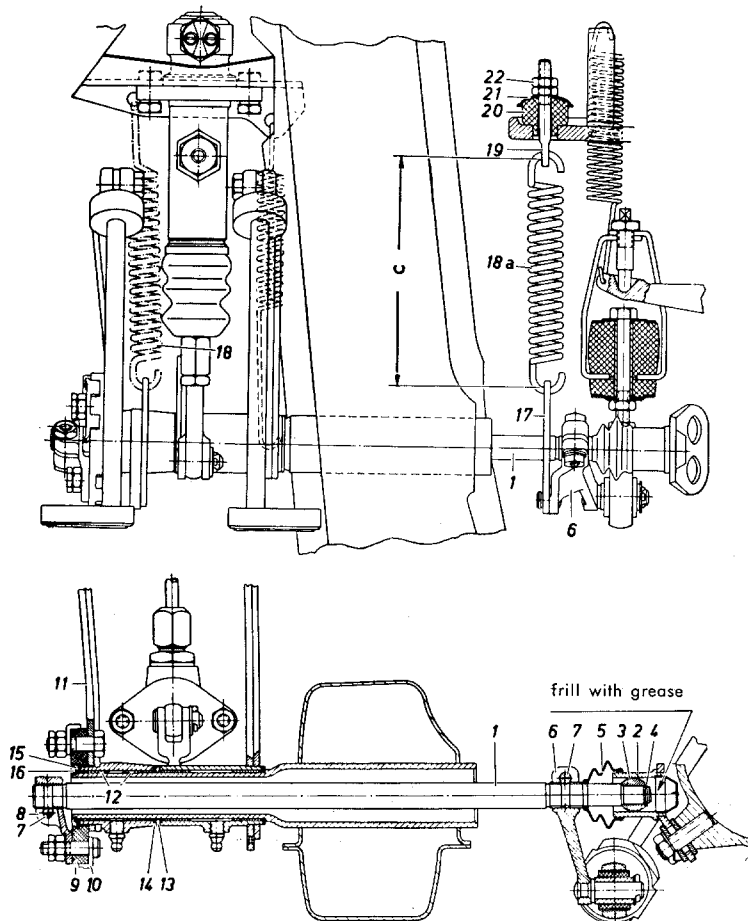

Fig. 29-5/1
1. In the case of the 2nd version detach the compensating spring (18) at the clutch pedal and at the attaching plate for the brake master cylinder. In Fig. 29-5/1 this
version is represented by dotted lines. In the case of the 3rd version loosen the nuts (22) of the pull rod (19) for the compensating spring (18 a) and detach the compensating spring at the shackle (17) of the relay lever (6) (Fig. 29-5/1).